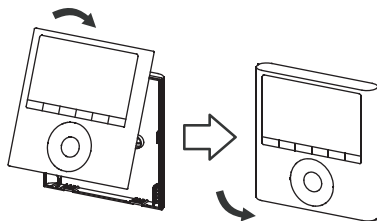

Fig. 13 — Buckle the upper case
1. While adjusting and mounting the upper case, avoid clamping the wiring during installation (see Fig 13).